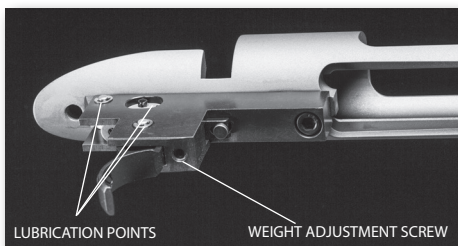

Fig. 9
5. Lube all contact points (*refer to Fig. 9*) with a drop of Shooter's Choice FP – 10® lubricant.
3. To increase weight of the trigger pull, with a 5/64 Allen wrench turn the weight adjustment screw clockwise until desired weight of trigger pull is established. To decrease weight of trigger pull turn the weight adjustment screw counter-clockwise until desired weight of trigger pull is established (refer to Fig. 9).